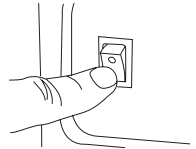

Fig. 9
• Before stopping the engine, switch off all the electrical loads and turn the generator ON/OFF switch to the OFF position (See Fig.9).